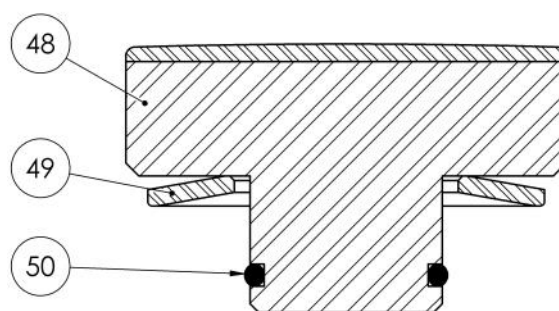

Fig. 52: Thrust pad set
- Find the thrust pad (47) with an anti-rotation pin and a hole for thermo sensor. Then locate the corresponding slot in the pad ring (45).
- Check the mobility of all thrust pads. If the thrust pads grips, realign the pad ring (45).
**Note:** The thrust pad set (47) consist of a thrust pad (48), an o’ring (50) and a spring washer (49) (Fig.52).